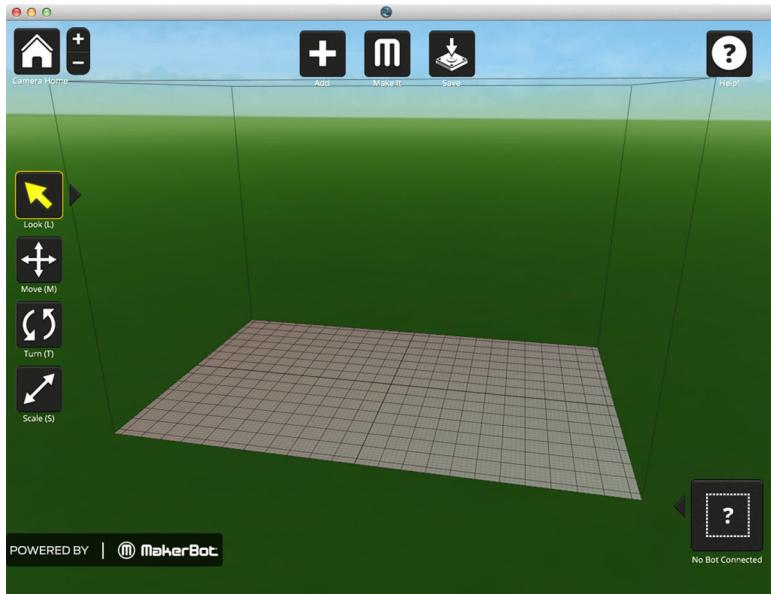

Figure 6-27. The MakerWare window
1. Open MakerWare, and it will appear (Figure 6-27).